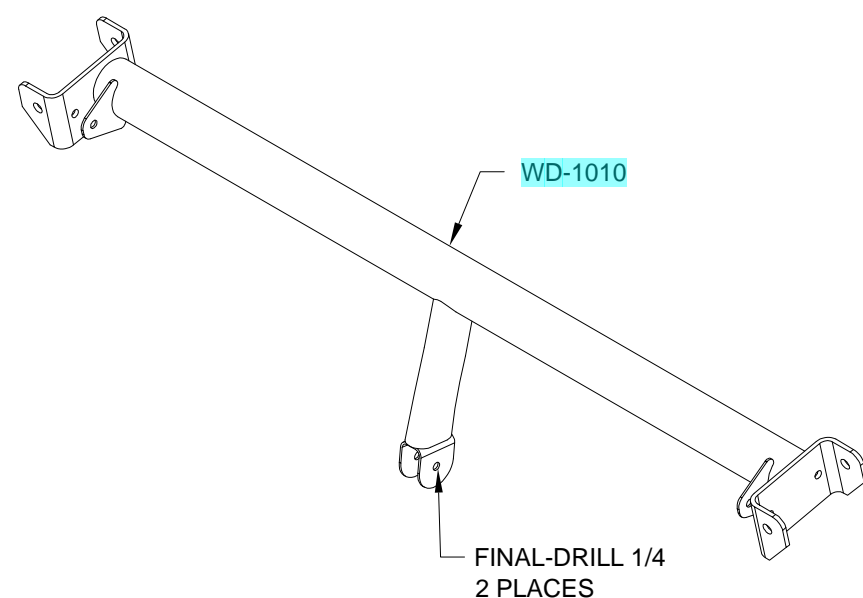

FIGURE 2: FINAL-DRILL CONTROL COLUMN
Step 2: Final-Drill the WD-1010 Control Column as shown in Figure 2.